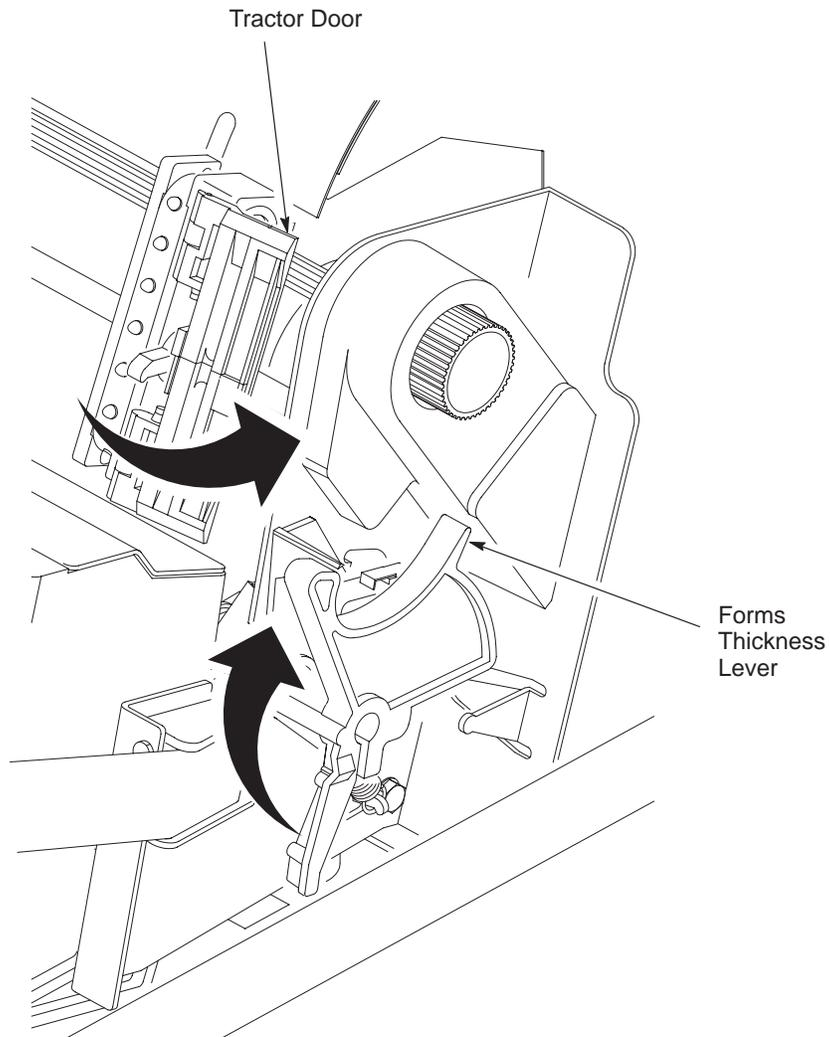

Figure 2–19. Forms Thickness Lever
4. Raise the forms thickness lever as far as it will go. (See Figure 2–19.)